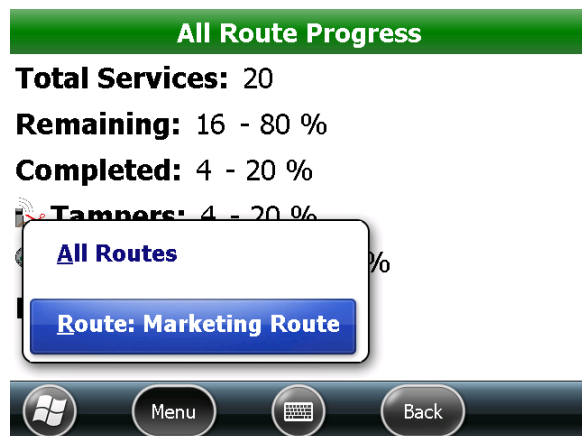

Figure 23: Tap **Menu** to see all routes
2. Tap the **Menu** button on the Progress screen to see a list of all loaded routes (Figure 23). Then tap a route to see a summary for the selected route only.